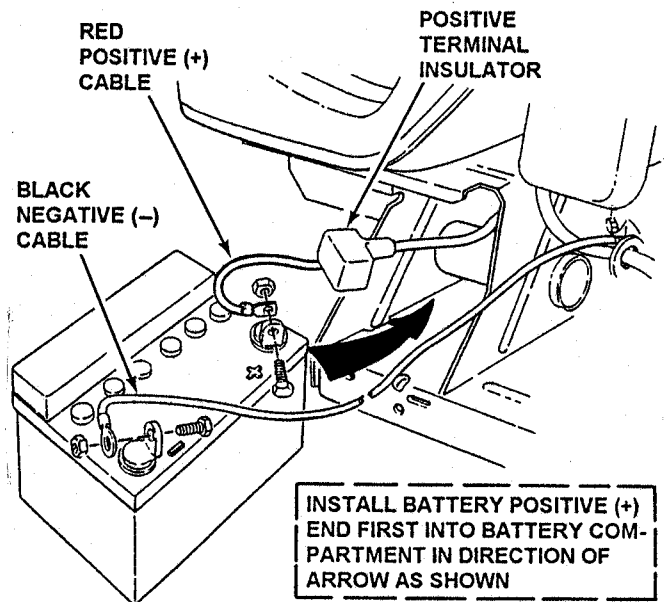

FIGURE 4.26
3. Observe and note cable positions on battery. See Figure 4.26.
2. Connect red (positive) cable first then the black (negative) cable to the correct battery terminals. See Figure 4.26.
Cables must be connected to battery terminals in the proper position as show in Figure 4.26.